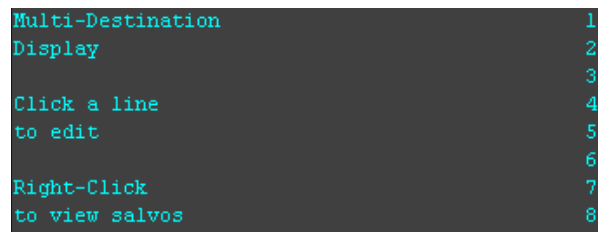

Figure 11-3. Panel Window Displaying Salvo Options
- 5 (For MD mode only) If the control panel window displays multi-destination lines, as shown in Figure 11-3, edit the multi-destination display as needed:
- a If “Multi-destination Display” is not currently displaying, as shown in Figure 11-3, right-click on the control panel display window.